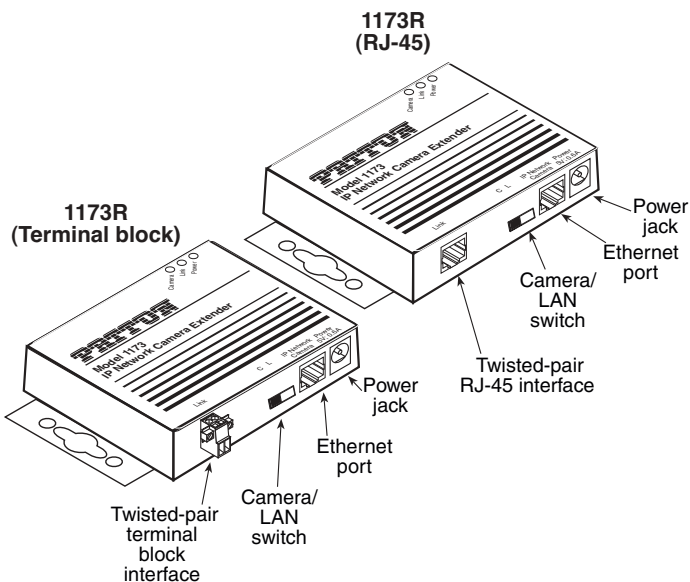

Figure 2. Model 1173R standalone rear panel
**Note** See Figure 2 for the standalone unit’s rear panel arrangements.